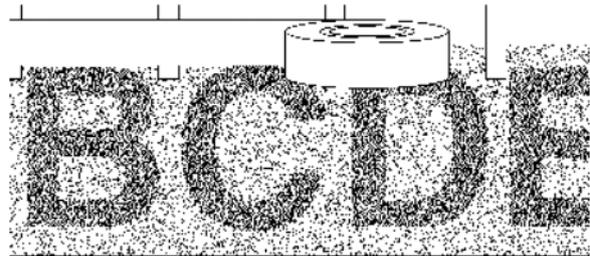

Figure 14. Make a Top Hinge on Prespaced Graphics
1. Apply a hinge. See **Top Hinge Method** on page 5 and Figure 14.